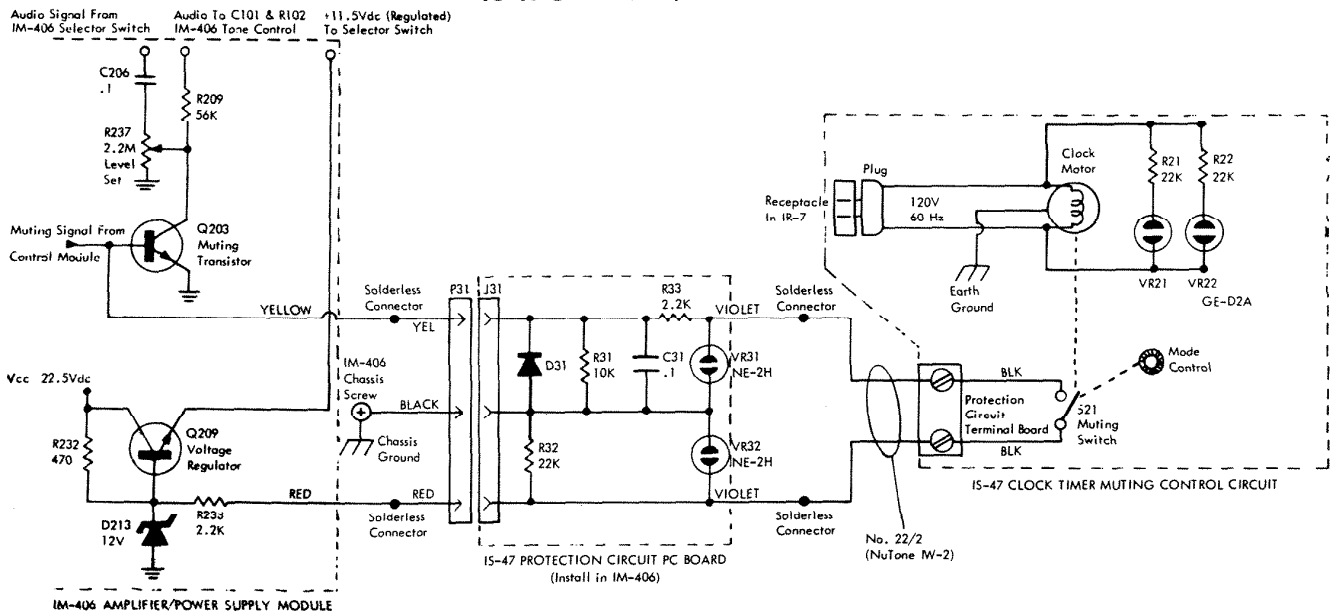

FIGURE 14: IS-47 CLOCK TIMER MUTING CONTROL CIRCUIT
(1) IS-47 audio operation is the same as for the other I/P Speakers.
(2) When the IS-47 is installed according to its Installation Instructions, the Clock/Timer Muting will be in accordance with the diagram, Figure 14.
(3) When Muting Switch S21 is closed, the positive voltage at the junction of Q209 and D213 is fed to the base of Q203, turning it ON. When Q203 is ON, the audio signal at the wiper terminal of R237 is shorted to ground.